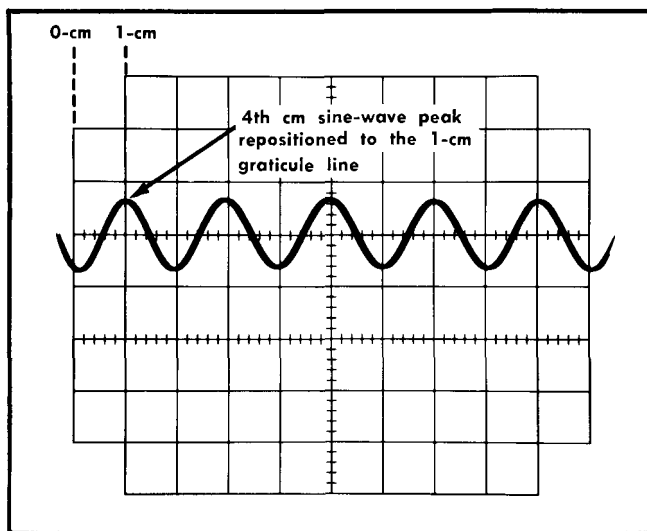

Fig. 5-7. Typical display showing 4th cm sine wave of Fig. 5-6 repositioned to the 1-cm graticule line, as in step 36 (I).
l. Adjust the A Triggering LEVEL control so a sine-wave peak (top or bottom) falls on the 4-cm graticule vertical line. Note that sine-wave peak and position it to the 1-cm graticule vertical line. (See Fig. 5-7.)